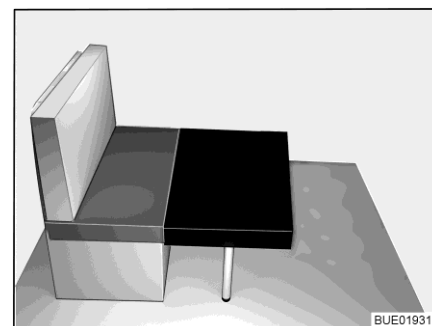

Fig. 75 After conversion
- Place the additional cushion onto the table in front of the seat cushion of the bench (see Fig. 75).